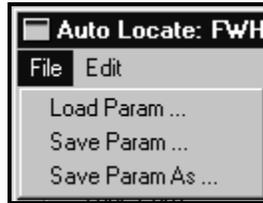

Figure 3-106. Auto Locate Dialog - File Menu
The **Auto Locate** dialog contains two (2) menu selections, **File** and **Edit**, as shown in Figure 3-106. The **File** menu contains three (3) selections, which are discussed below.
- **Auto Locate > File > Load Param ...**: Selecting **Load Param ...** from the **File** menu on the **Auto Locate** dialog shown in Figure 3-106 displays a standard **Open** dialog. Any previously saved **Auto Locate** parameter file (.loc) may be loaded (opened) and used as desired.
- **Auto Locate > File > Save Param ...**: Selecting **Save Param ...** from the **File** menu on the **Auto Locate** dialog shown in Figure 3-106 saves the currently open parameter file along with any changes to the same file name. If no file name has been assigned to the current parameter file, clicking **File > Save Param ...** saves the current parameter settings to `\corestar\config\auto_locate\default.loc`.
- **Auto Locate > File > Save Param As ...**: Selecting **Save Param As ...** from the **File** menu on the **Auto Locate** dialog shown in Figure 3-106 displays a standard **Save As** dialog which allows the user to assign a new name to the current parameter file. Furthermore, the file may be saved to the default directory as well as any other drive and/or directory as desired.